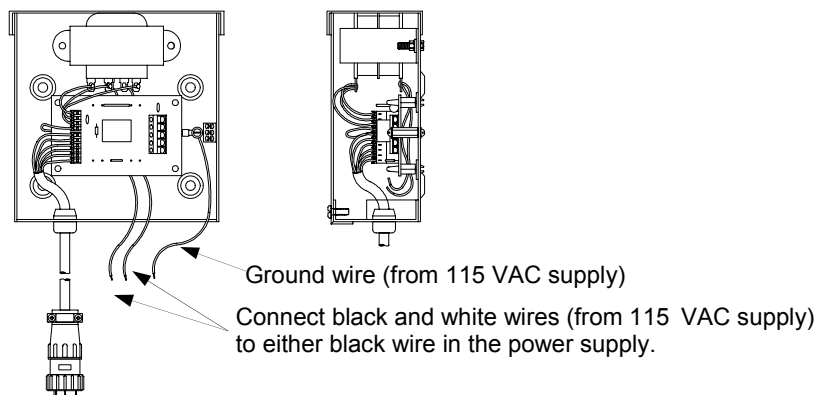

Figure 9
3. The center hole on the underside of the power supply box provides access for conduit and connection of 115 VAC power. Connect the 115 VAC black and white leads to the power supply as shown. (Figure 9)
4. Connect the ground wire to the ground terminal as shown in figure 9.